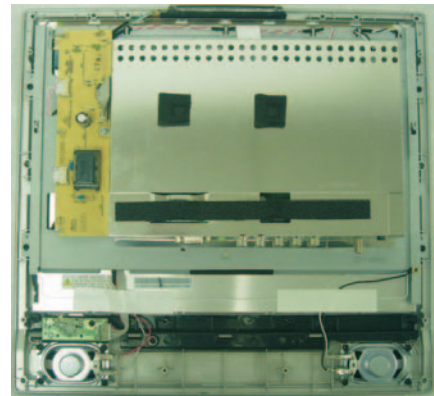

Fig.4
b. Remove the back cover as Fig.4.